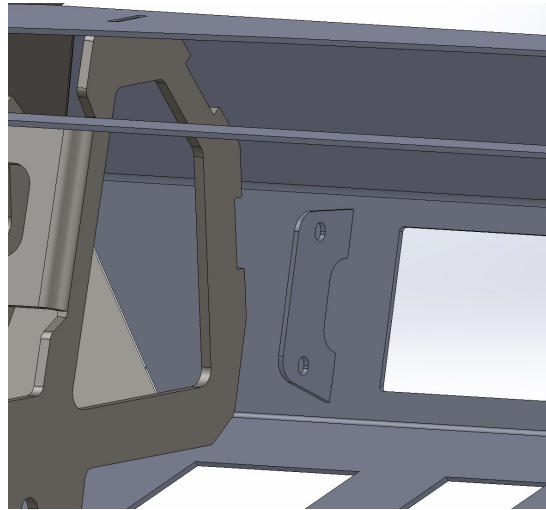

Figure 3
3. Remove the 20" Light Bar from bracket in bumper (figure 3) if installed. Use a 1/2" socket and wrench.